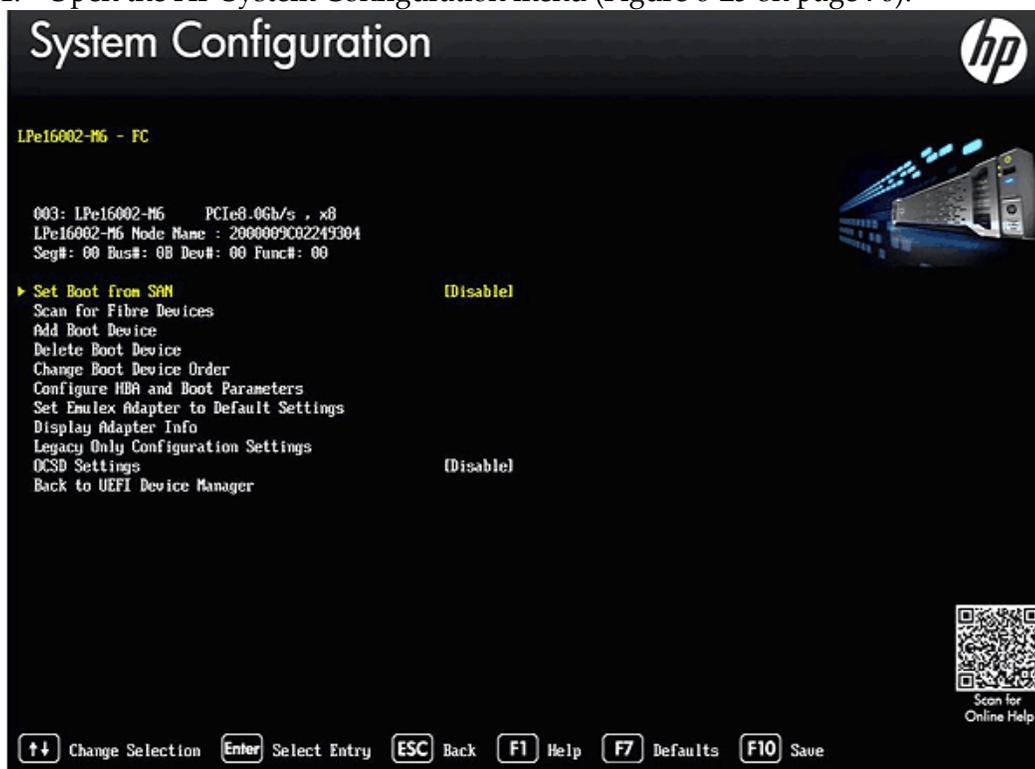

Figure 6-25 HP System Configuration Menu Screen
1. Open the HP System Configuration menu (Figure 6-25 on page 70).